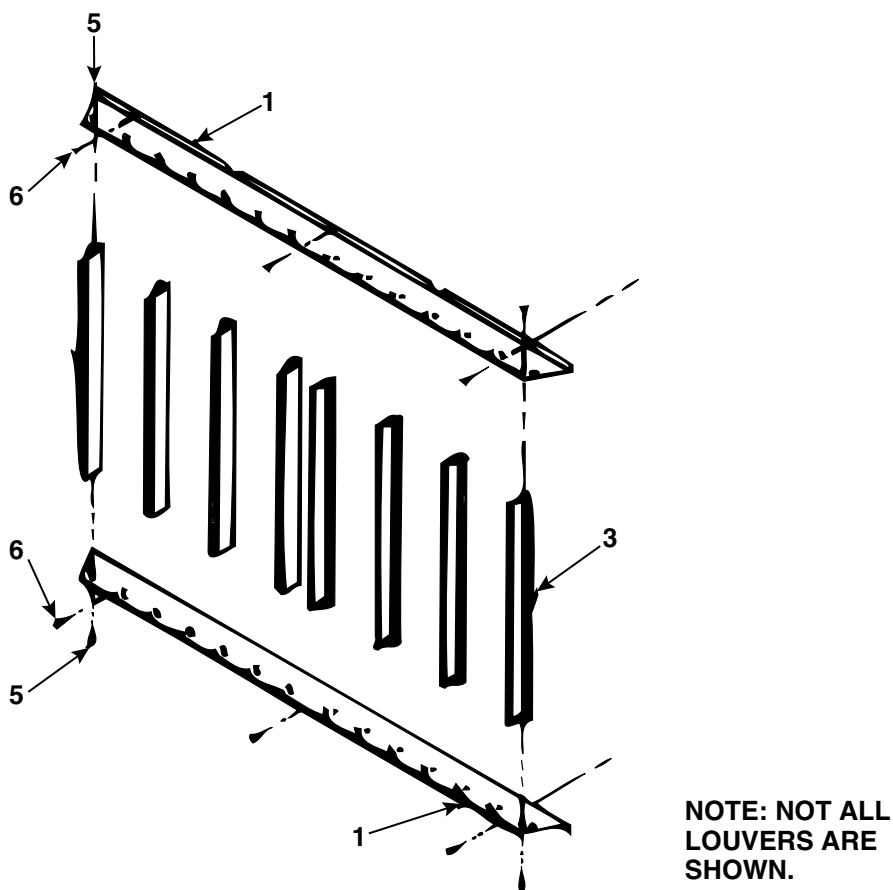

Figure 31. Vertical Louver Assembly—RA and RAD Models, Unit Sizes 110, 140, and 235 (Refer to Table 23)
- The vertical louver assembly for RA and RAD models—unit sizes 110, 140, and 235—is shown in Figure 31.